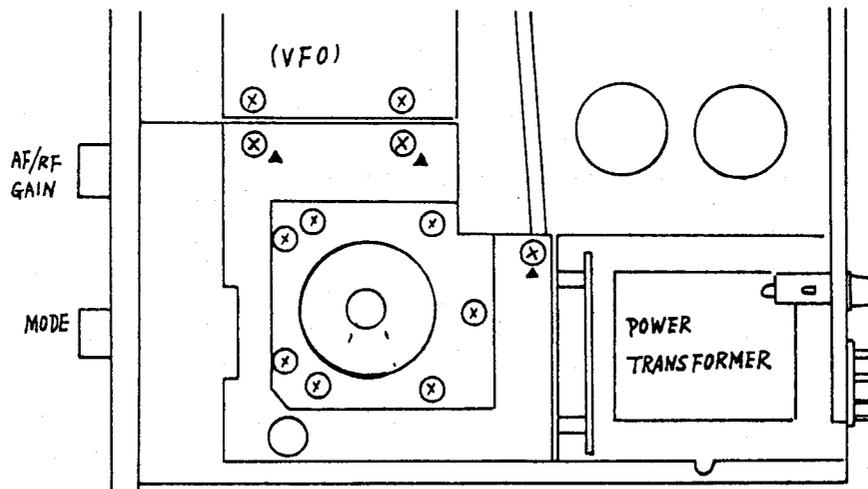

Fig. 6-1
5. Remove three Phillips screws as shown by ▲ marks in Fig. 6-1